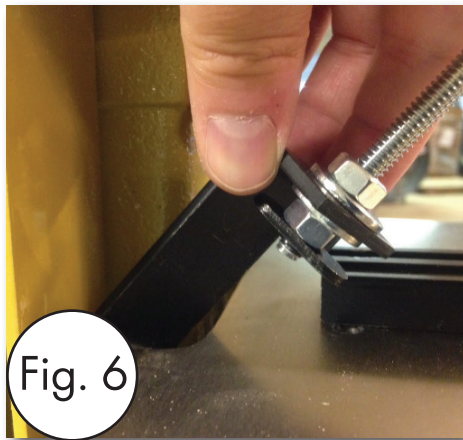

Fig. 6
2. Insert table Extension Clamp between saw frame and table with the small lip down and under the bottom of the table (Fig. 6 & 7).